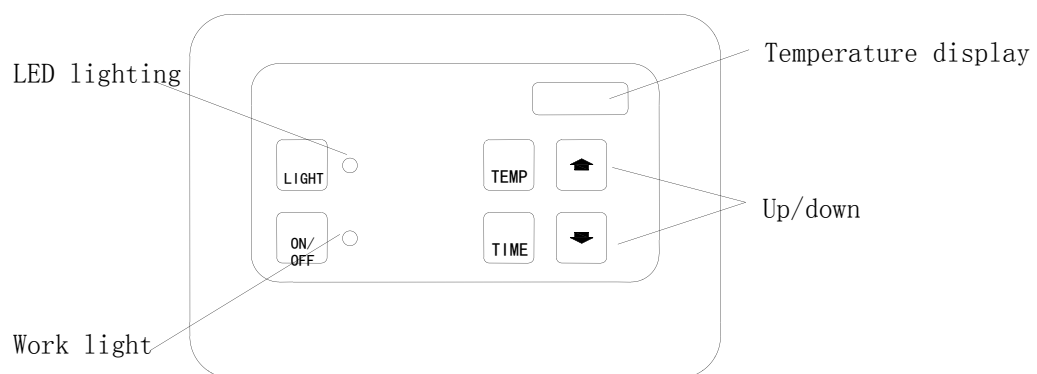

Figure 13
- 2, ST-135T's shape and function operation, figure 13